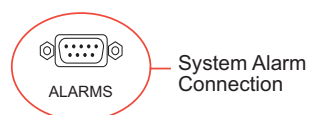

Figure 3-17. Alarms Connection (Rear View)
- 1 On the rear of the router, locate the 'ALARMS' connection, as shown in Figure 3-17.